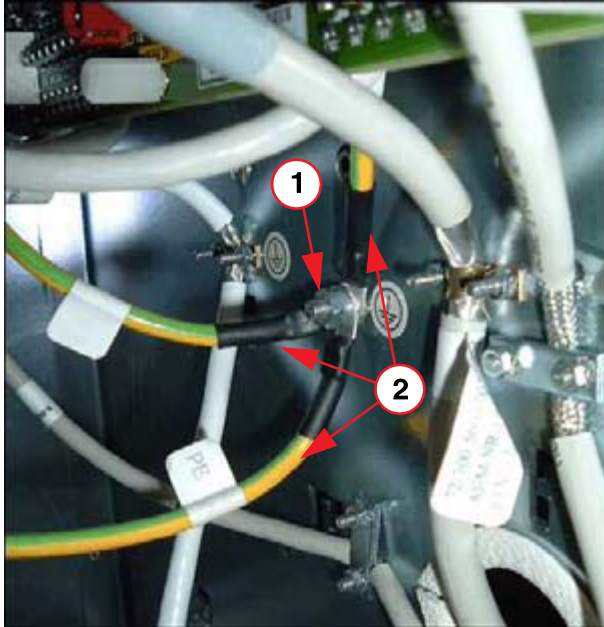
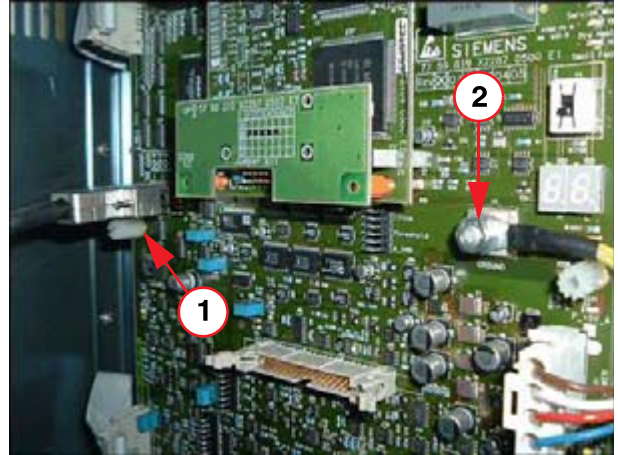

Fig. 1: Grounding point
Fig. 2: D500 ground connections
- Remove the nut on the grounding point below the D501 (1/Fig. 1 / p. 50) and disconnect the three ground cables (2/Fig. 1 / p. 50) from the grounding point. Let the ground cables hang down so that there is no connection to the housing; if needed, insulate them.
- If present, disconnect the cable for the D500.X31 RS232 connection (1/Fig. 2 / p. 50) from the D500.
- Use the multimeter to measure the resistance between the grounding point on D500, Ground X2 (2/Fig. 2 / p. 50) and the grounding point on the generator (1/Fig. 1 / p. 50).